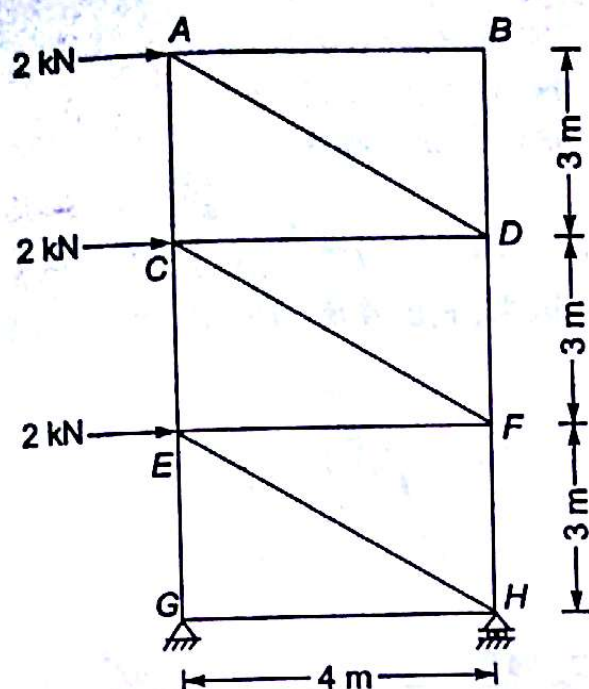

Fig. 4.47
- 4.18 What is the force in the member EH for a pin jointed tower truss as shown in the Fig. 4.47.